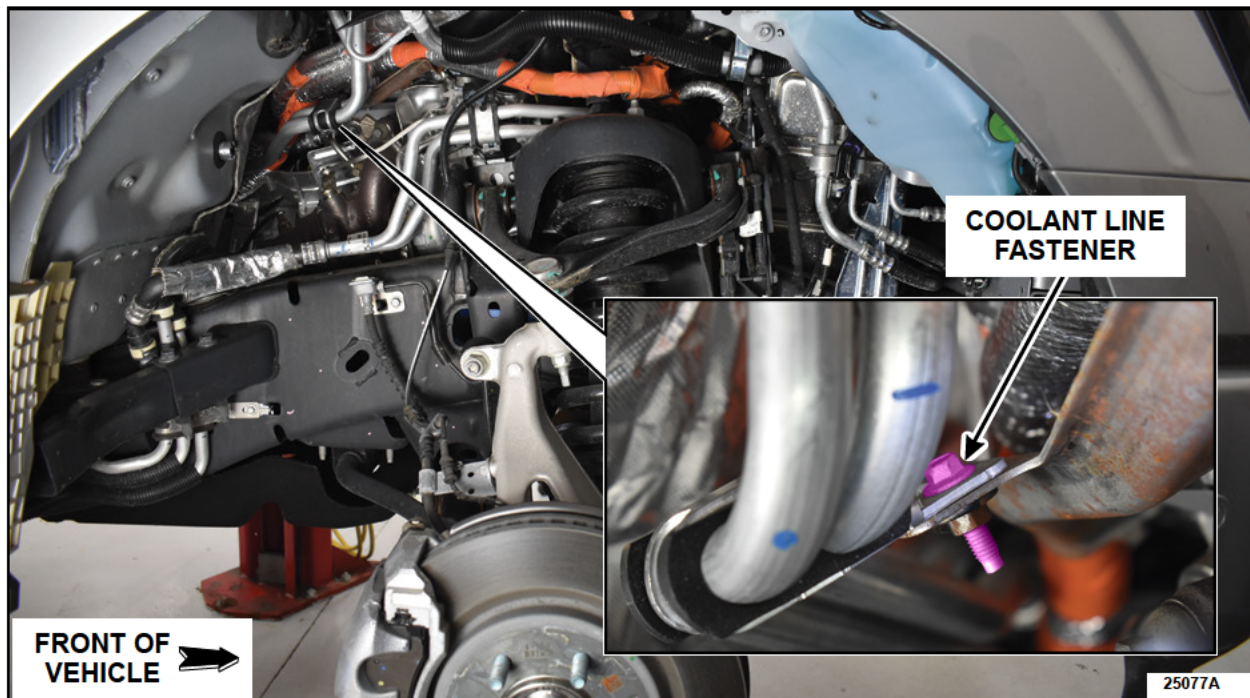

FIGURE 1
10. Remove the coolant line fastener. See Figure 1.